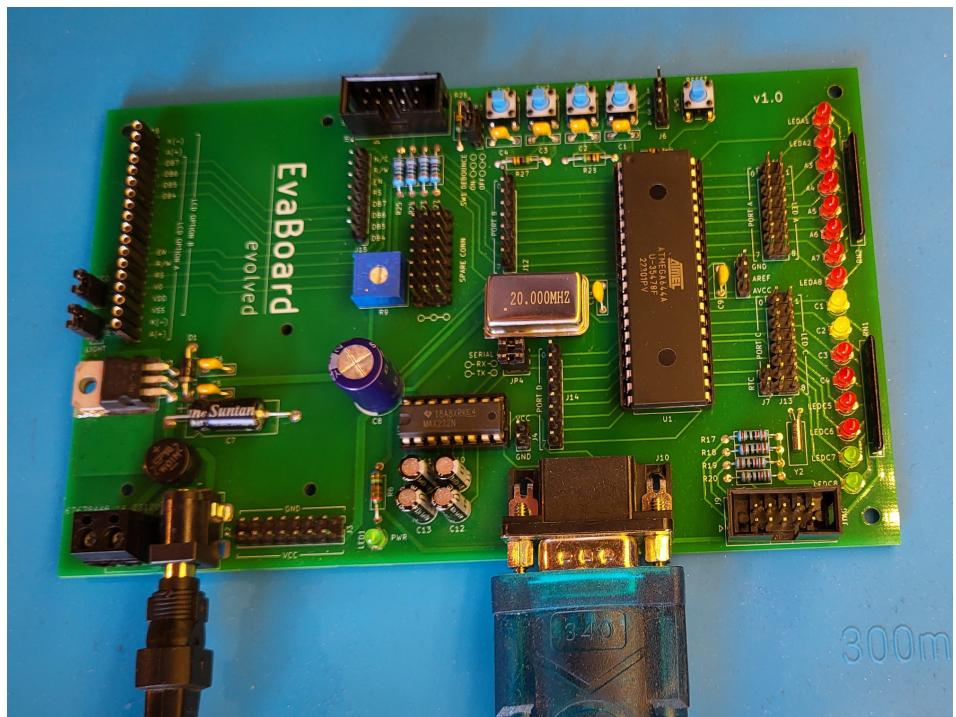

Figure 54: Wiring for the Serial Example
**Preparation** Mount both jumpers on JP4 to connect the ATmega's RX and TX pins to the MAX232, see Figure 54. Use a serial cable or a USB-to-serial connector, to connect the board's serial port (J10) to your computer.